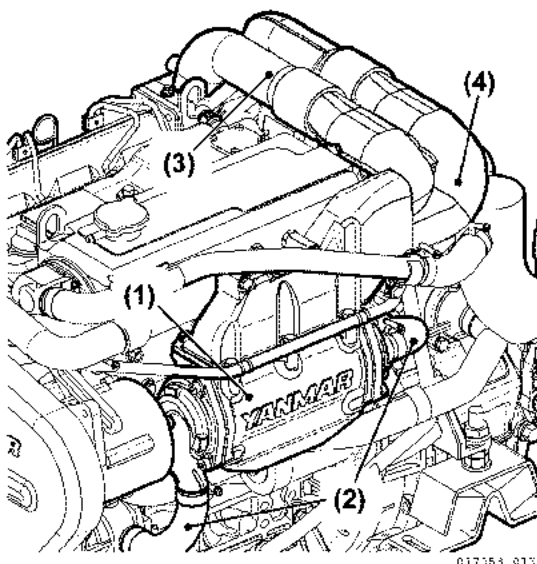

Figure 5-191
- (c) Install the air duct from the turbocharger to the intercooler (Figure 5-191).